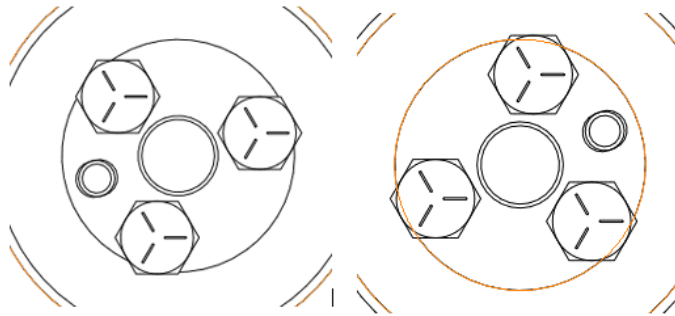

Figure 10 – Acceptable cam dowel positions when viewed straight on from front of engine. Viewable when using late model type pin drive.
14. Rotate the engine so that the cam dowel pin is in either position (8 o'clock or 2 o'clock) shown in Figure 10. If your engine is the early type spline drive rotate the engine so that the spline drive index notch is in either the 5 o'clock or 11 o'clock position (You will have to use a light to peer through the spline drive hole in the front timing cover).